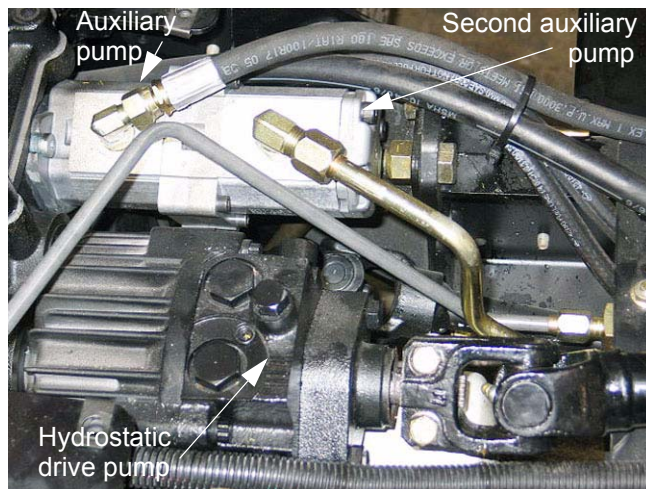

Figure 1.4
- 1.4. The hydrostatic drive is a Sauer model BDU15. It has an integrated gerotor charge pump that draws fluid up the suction pipe from the base of the transmission housing. See Figure 1.4.